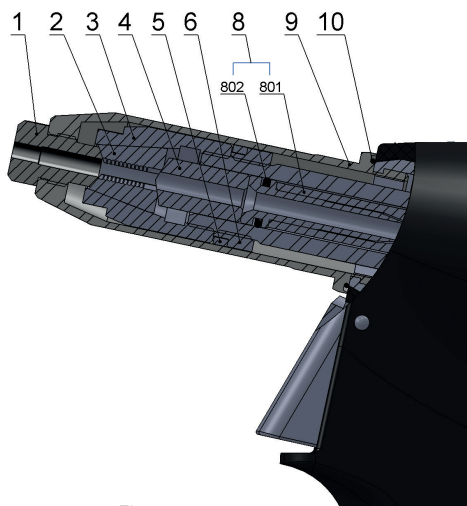
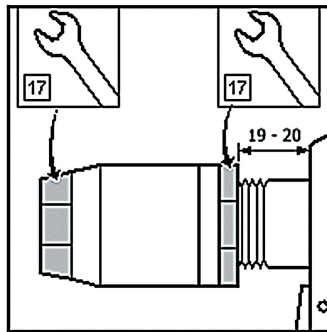

Fig.2
Fig.3
Disconnect the tool from the source of compressed air, unscrew the front nozzle /fig.2 - pos.9/ by means of a spanner no.23, set the spanner no.17(15) onto the clamping sleeve /fig.2 - pos.3/, set the spanner no.17 on the backnut /fig.2 - pos.6/ and loosen. Unscrew the clamping sleeve, replace the jaws /fig.2 - pos.2/ and conduit-suction complet /fig.2 - pos.8/. All used threads are clockwise. Clean the dismantled parts thoroughly and check them visually, especially the following:
- 1) Jaws /fig.2 – pos.2/ - if worn or damaged, replace it, if dirty, clean it with a wire brush.
- 2) Nose-piece /fig.2 – pos.1/ - for wear of functional surfaces of the taper.
- 3) Jaw pusher /fig.2 – pos.4/ - for wear of functional surface of the taper.
- 4) Conduit-suction complet /fig.2 - pos.8/ - inspect parts of the assembly, O - ring /fig.2 - pos.802/ and conduit-suction /fig.2 - pos.801/ - if damaged or worn, replace it with a new one.
- 5) Front nozzle /fig.2 - pos.9/ - check for damage of the internal surface ( $\varnothing 20$ ) .
- 6) Scraper ring /fig.2 - pos.5/ - if damaged or worn, replace it with a new one.
Mount the parts (see par. disassembly) in a reverse order. On the outer surface of the jaws /fig.2 – pos.2/ apply a drop of lubricating oil ( we recommend hydraulic oil HYPIN AWHM 32 CASTROL), apply thin layer of plastic lubricant MOGUL LV 2-3 to the conduit-suction complet /fig.2 – pos.8/. Basic set-up of the jaws is performed as in fig. 3.